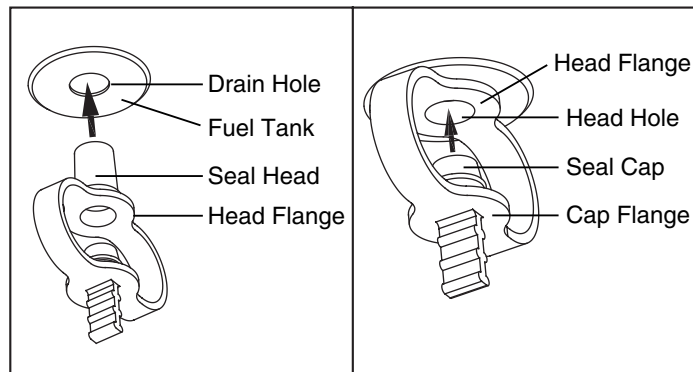

Figure 9
5. Reinstall Drain Plug as follows. (For DFA-125 Model Only. See Figure 9)